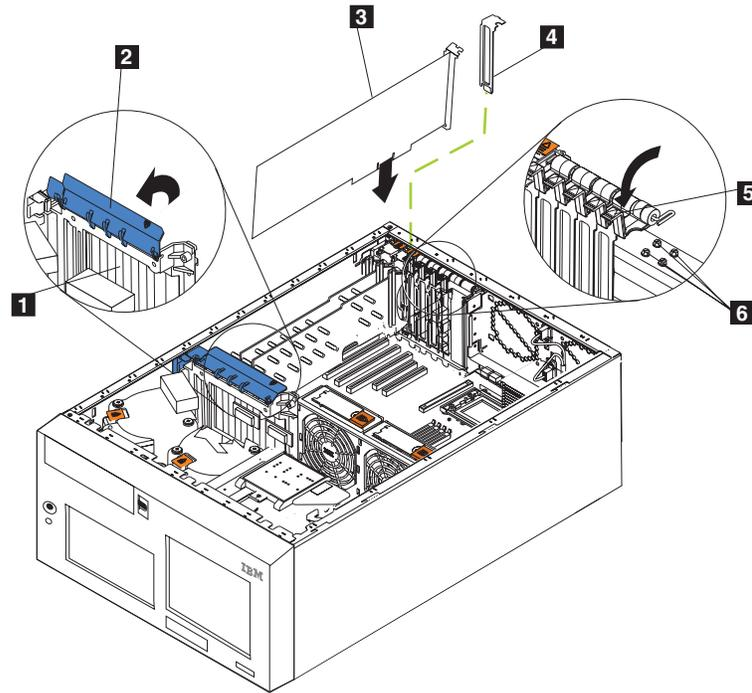

Figure 30. Installing an adapter (NAS 300G engine)
5. Lift the adapter-retention clip on top of the adapter-support bracket and the adapter-retention latch from each full-length adapter; then, remove the full-length adapters. (See Figure 30 on page 85 for the location of the adapter-retention clip.)
Figure 30 shows how to install a PCI adapter.
- c. Secure an adapter in slots 1-4 with a screw: insert one of the backup expansion-slot screws (see Figure 30 on page 85 for the location of the screws) through the top of the adapter bracket into the screw hole to secure the adapter.